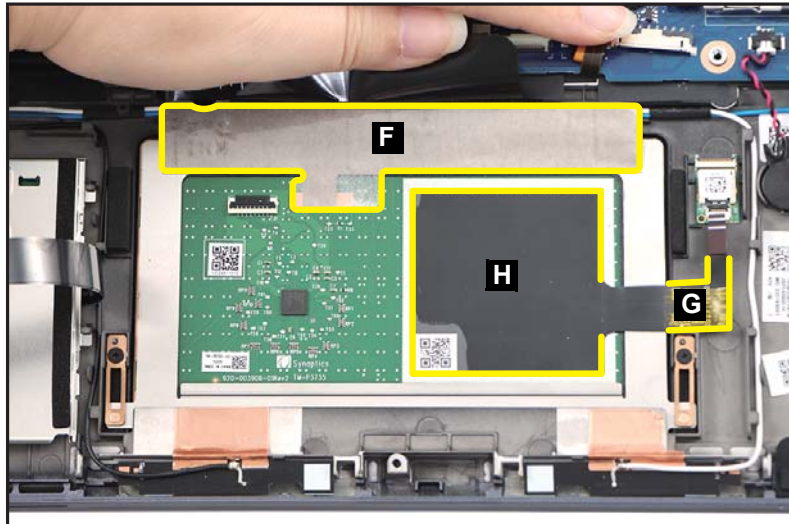

Figure 1-36. Touchpad Module Removal
6. Lift slightly the mylar. Then detach the conductive tape (F) from the touchpad module and top assembly (Figure 1-36).
7. Detach the middle portion (G) of the NFC antenna cable from the top assembly. Then carefully remove the NFC antenna (H) from the touchpad module (Figure 1-36).